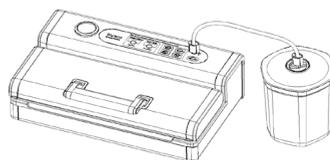

Fig.10
- Insert one end of the hose into the air intake and another end of the hose into the center hole of the canister cover (fig. 10).